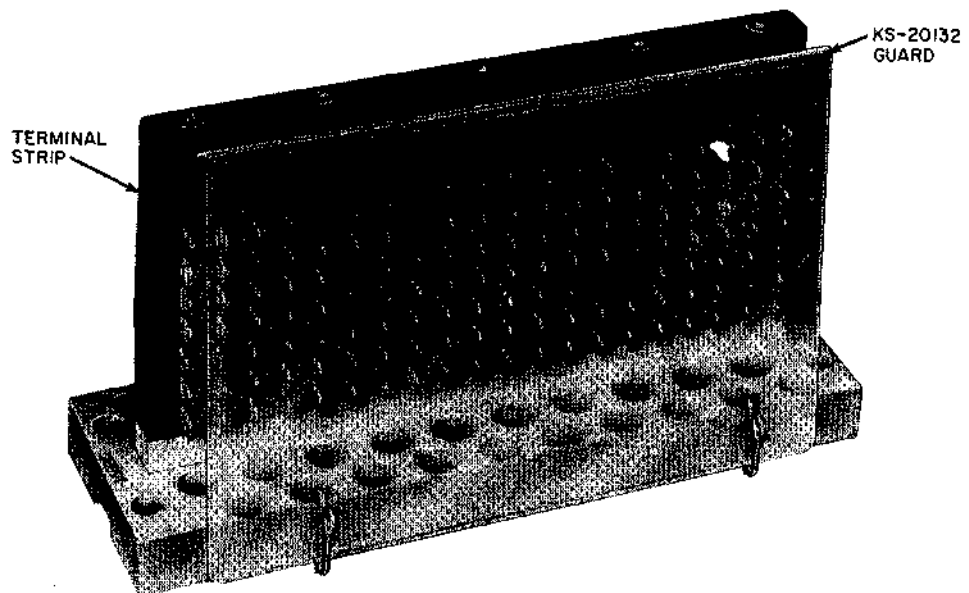

Fig. 34—KS-20132 L1 Through L22 Guards
16.15 The KS-20132 L1 through L22 guards (Fig. 34) are furnished as protective devices for fastening to the top and bottom of terminal strips on distributing frames of miscellaneous switching systems. The guard covers the edges of the molded barrier clamping strips and protects the solderless wrap terminals on the cable side